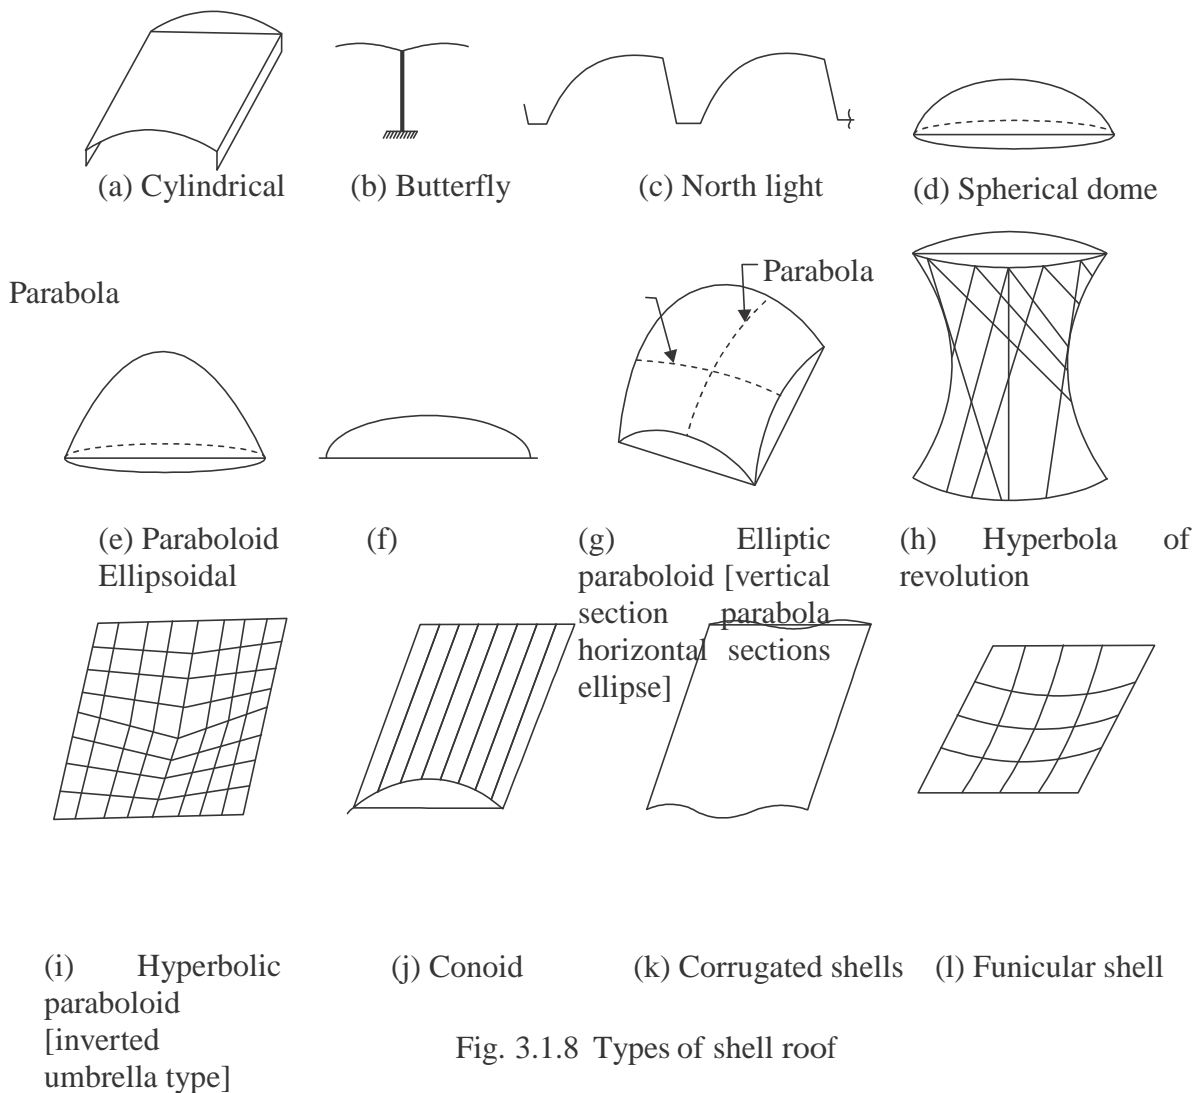

Fig. 3.1.8 Types of shell roof
3. Shells and Folded Plate Roofs: *Shell roof* may be defined as a curved surface, the thickness of which is small compared to the other dimensions. In these roofs lot of load is transferred by membrane compression instead of by bending as in the case of conventional slab and beam constructions. Caves are having natural shell roofs. An examination of places of worships built in India, Europe and Islamic nations show that shell structures were in usage for the last 800 to 1000 years. However the shells of middle ages were massive masonry structures but nowadays thin R.C.C. shell roofs are built to cover large column free areas. Figure 3.1.8 shows commonly used shell roofs.